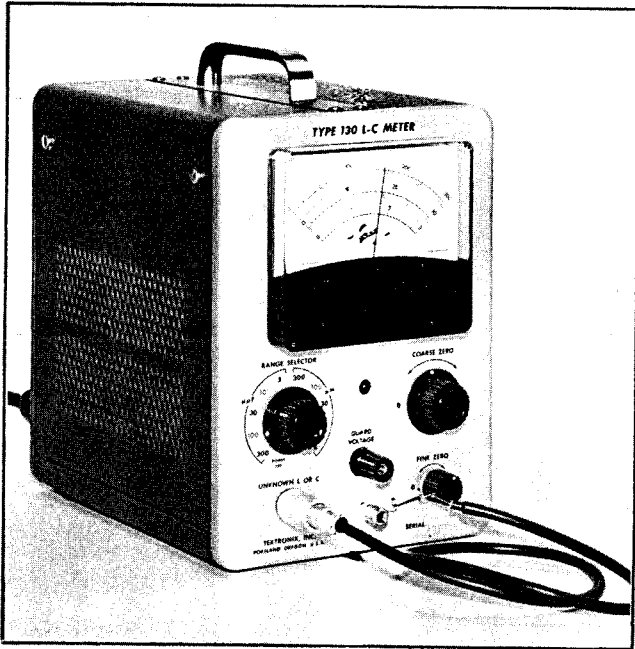

Fig. 2-5. Unmounted capacitor measurement using P93C Probe.
1. Secure one lead of the unknown to the Type 130 frame at the metal ground terminal. Hold the probe tip about 2 inches away from the other lead of the capacitor. Set the meter electrical zero. Then touch the probe to the open lead of the unknown and read the meter. If the reading is less than the value of the next lower scale, change the RANGE SELECTOR switch, zero the meter, and make the measurement. See Fig. 2-5.